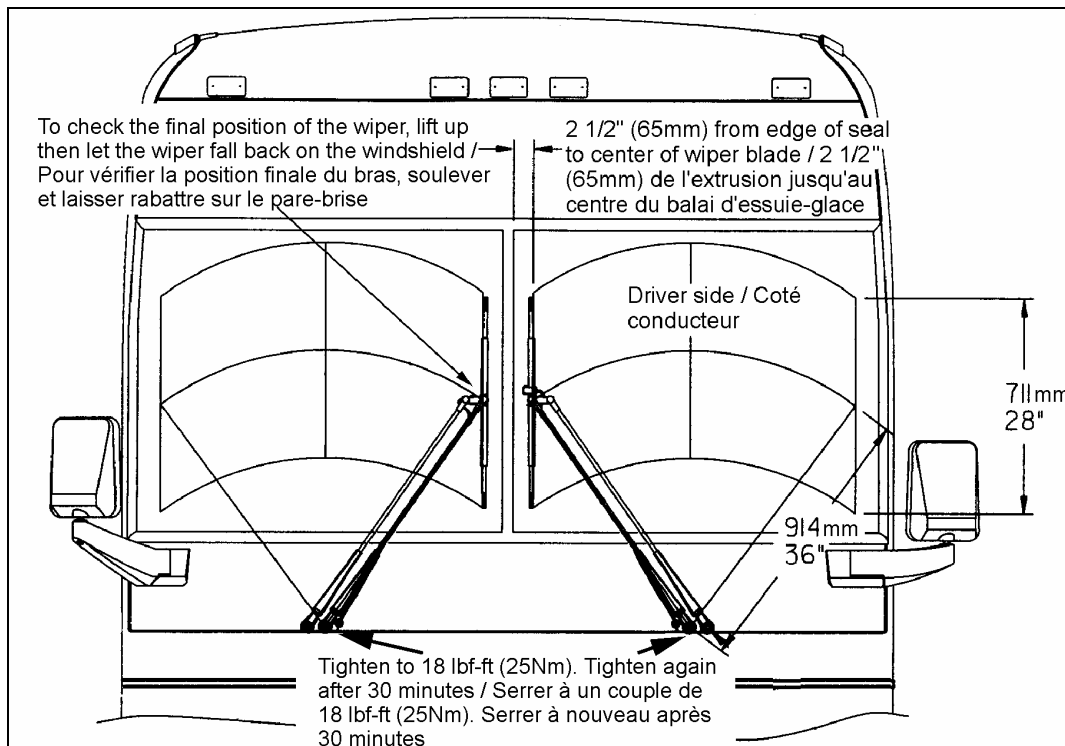

FIGURE 1 : WIPER ARMS POSITIONING
1. Install the wiper arm and position as shown in figure 1.